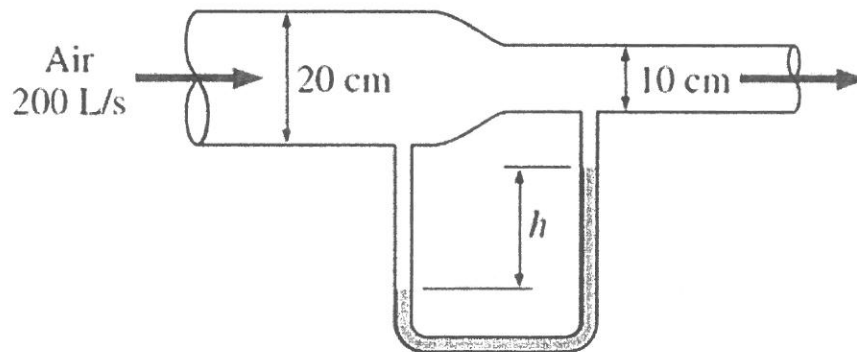

Figure Q4 (a)
- (a) Air flows through a pipe at a rate of 200 L/s as shown in Figure Q4 (a). The pipe consists of two sections of diameters 20 cm and 10 cm, connected by a smooth reducing section. A water manometer is attached to measure the pressure difference between the two pipes. Neglecting frictional effects, determine the differential height  $h$  of the manometer. Take the air density to be 1.20 kg/m3.